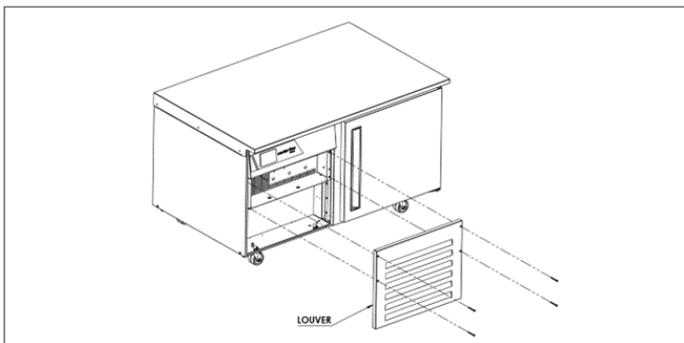

Fig. 10
For undercounter models, remove the four (4) screws securing the front louver panel and remove the panel (see Figure 10).